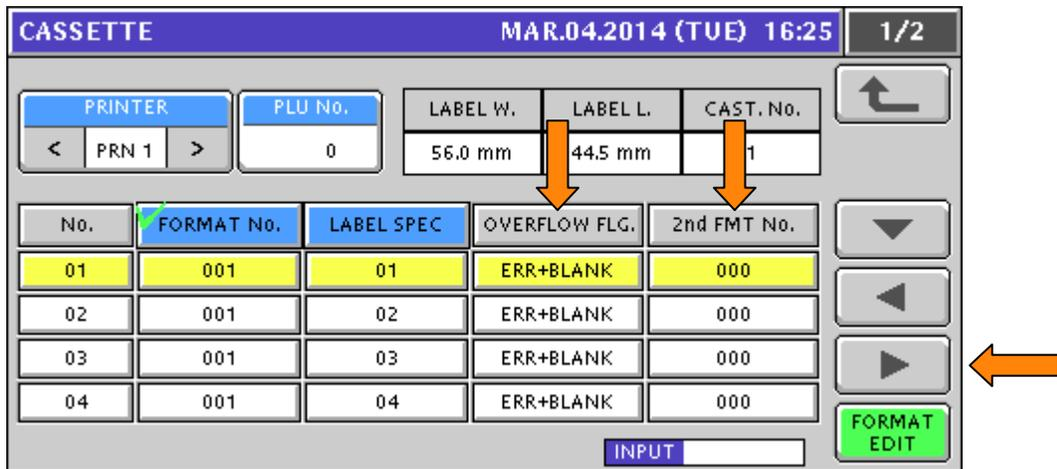

Figure 7.4. Label Cassette Setup: Overflow Flag and Second Label Format No.
15. Press the ► button to move to the next page. See Figure 7.4.